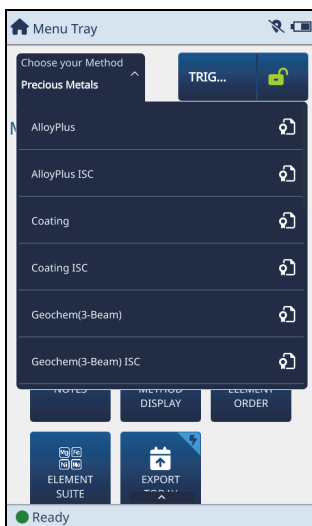

Figure 2-1 Select Method screen
2. On the **Select Method** screen, select a method (see Figure 2-1 on page 24).